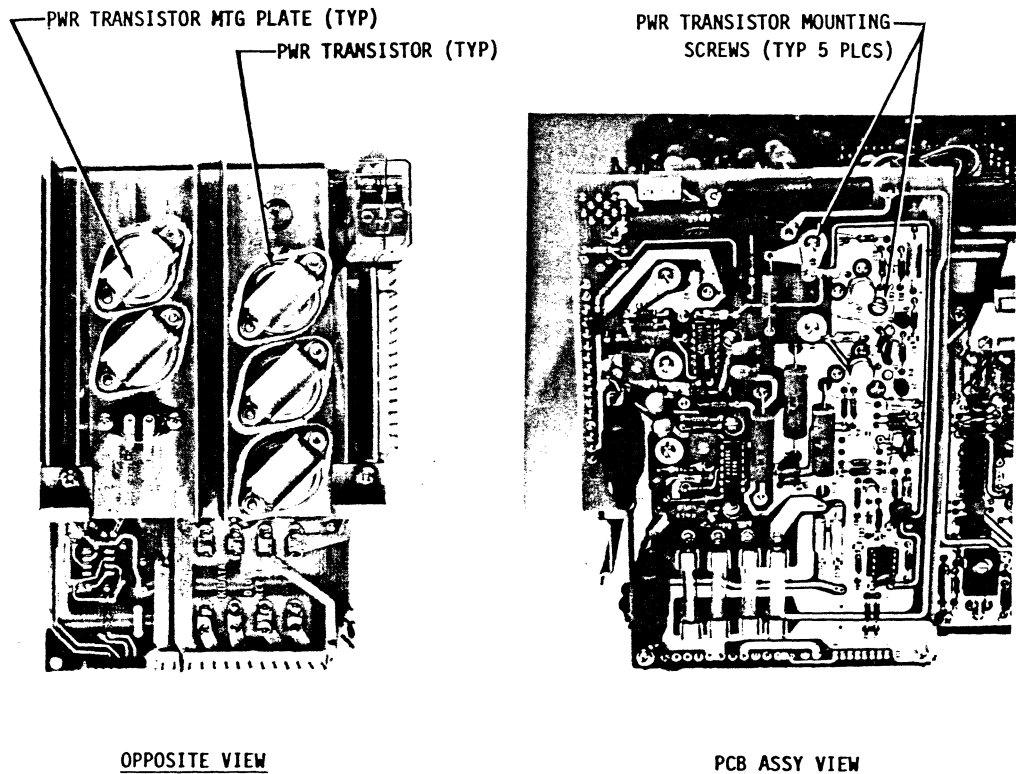

Figure 5-7
- c) To replace a power transistor (1Q8, 1Q9, 1Q12, 1U2) remove the two mounting screws from PCB side of the assembly which removes the defective transistor's mounting plate on the heat sink side of the assembly. See Fig. 5-7. With mounting plate and screws removed, remove the defective transistor.